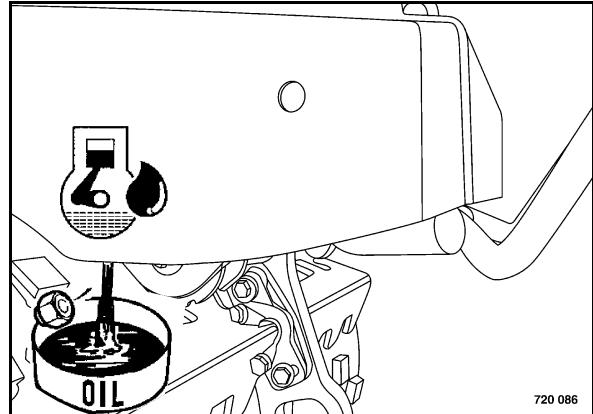

Fig. 95
- Unscrew the drain plug (Fig. 95) and catch running out oil.